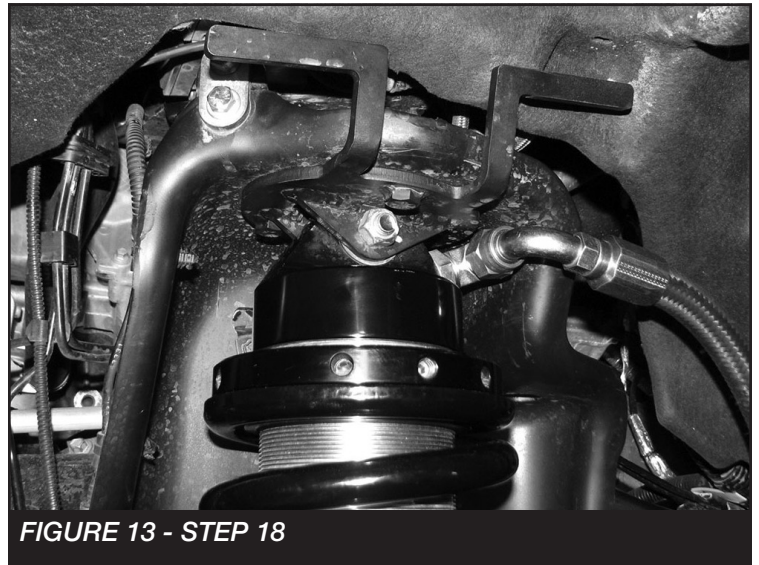

FIGURE 13 - STEP 18
18. Install the driver side coilover using the supplied 7/16" nuts and washers for the upper mount and the 5/8" hardware with two FT83475 (Misalignments) at the lower mount. Torque 7/16" to 83 ft-lbs and 5/8" 254 ft-lbs. SEE FIGURE 13